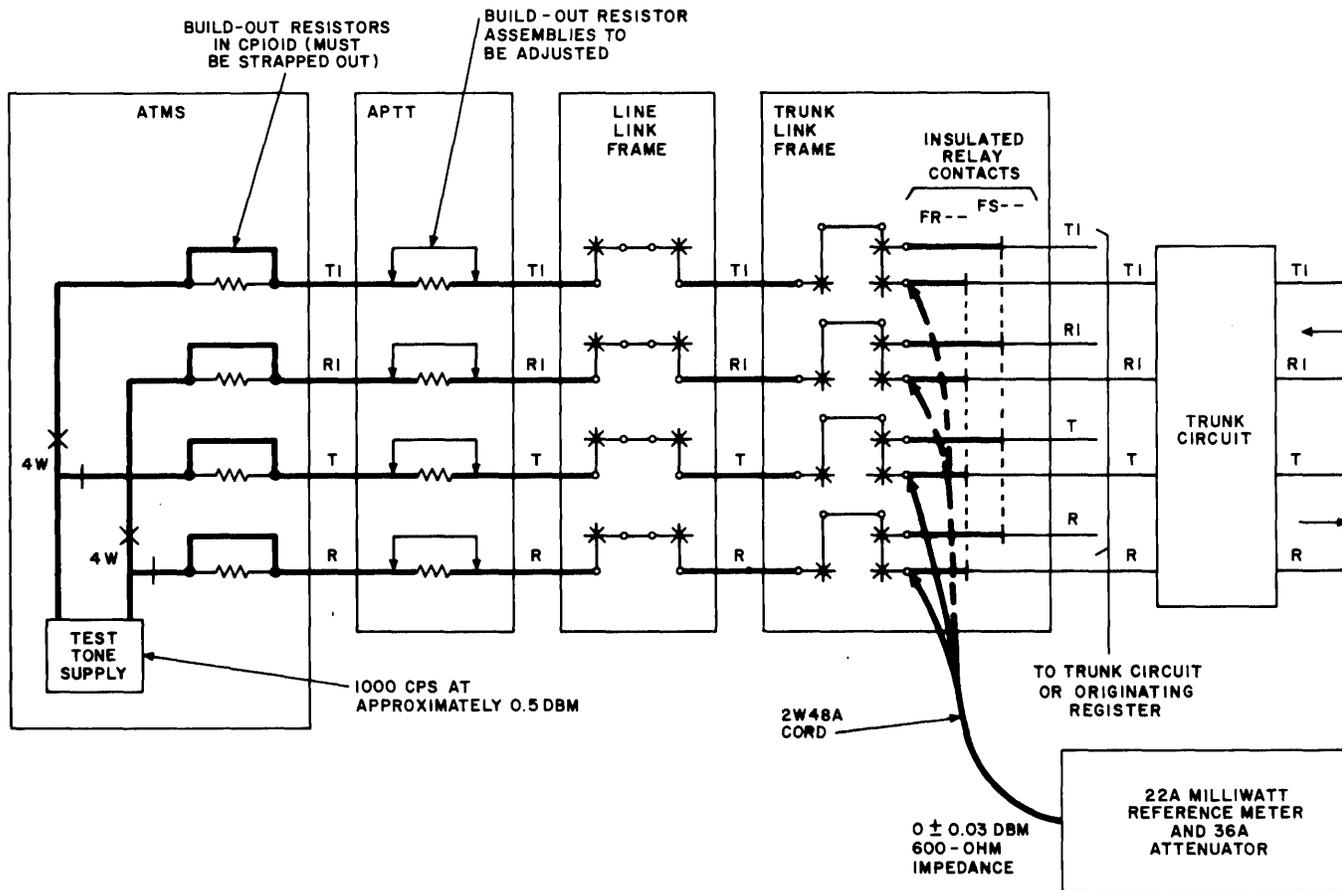

Fig. 4—Test Setup for Adjusting Build-Out Resistors for 4-Wire Trunks
B. 4-Wire Trunk Build-Out (Fig. 4)